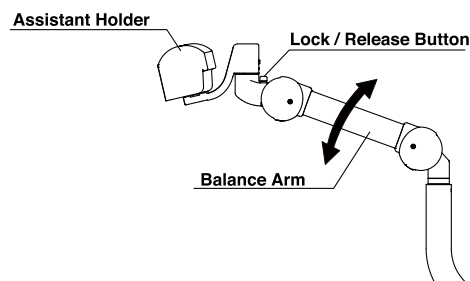

Fig.3-29 Height Adjustable Assistant Arm
(8) Height Adjustable Assistant Arm (Optional) (Fig.3-29)